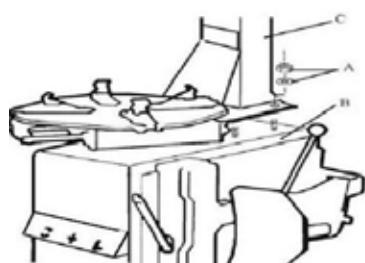

Fig. 3
2. Unscrew the nut A on the cabinet body B as shown in figure 3. Lift the column C. Mount it on the machine body B by using the nut A through the bolt located on the machine body B. If the column becomes loose after a period of using, tight them immediately. Otherwise the result of damage to the tyre may happen.